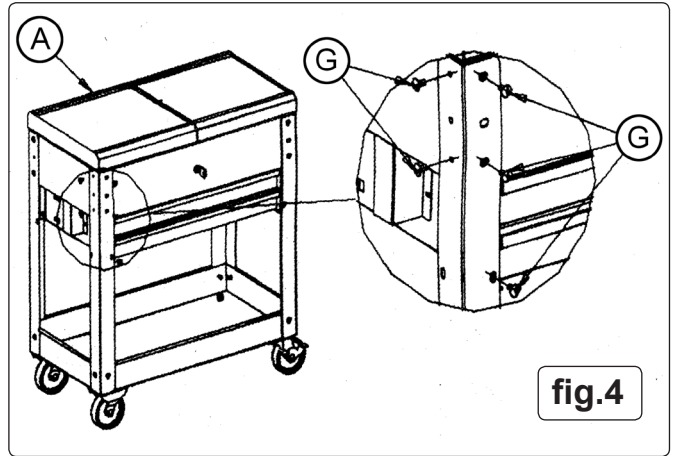

fig.4
- 4.4 With the help of another person, position the upper tray unit within the top of the four pillars and fix it by screwing four bolts into the threaded inserts at each end of the trolley as shown in fig.4. Do not use the bolt position second from the top. Further secure the unit by inserting a further six bolts on the front and back of the unit. The lowest bolt positions are adjacent to the bottom draw.